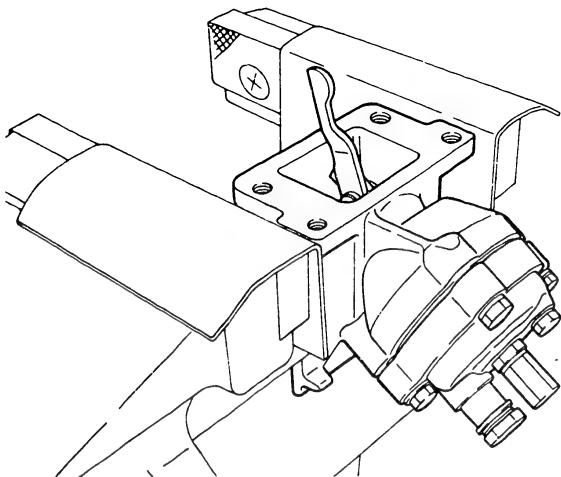

Fig. 78 Fixing the B.C.S.
4. Fix the boost compensator in a vise as shown in Figure 78.